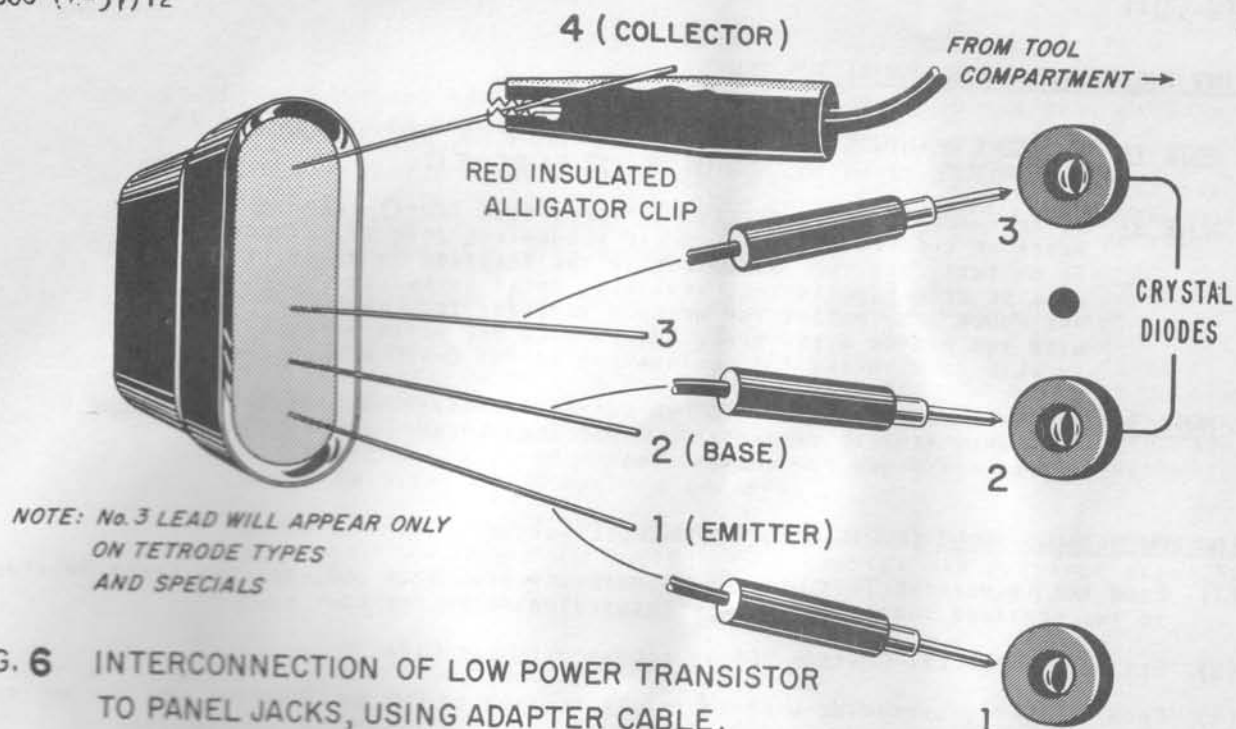

FIG. 6 INTERCONNECTION OF LOW POWER TRANSISTOR TO PANEL JACKS, USING ADAPTER CABLE.
- (6) IF THE TRANSISTOR LEADS DO NOT PERMIT INSERTION INTO THE SOCKET, USE THE ADAPTER LEADS FURNISHED WITH YOUR 660 AND CONNECT BETWEEN THE THREE PANEL JACKS AND THE TRANSISTOR AS ILLUSTRATED IN FIG. 6 ON THE NEXT PAGE. (USE THE RED ALLIGATOR LEAD WHICH COMES UP OUT OF THE TOOL COMPARTMENT TO CONNECT THE COLLECTOR LEAD OF THE TRANSISTOR)